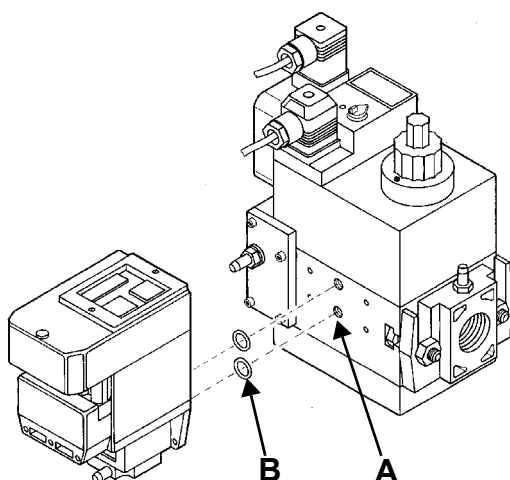

Fig. 1
- 3 remove the Multibloc's screw plugs (Fig. 1-A);
- 4 insert sealing rings (10,5 x 2,25) into VPS 504 (Fig. 2-B, Fig. 1-B)
- 5 Torque screws 3, 4, 5, 6 (M4 x16) Fig. 1-C